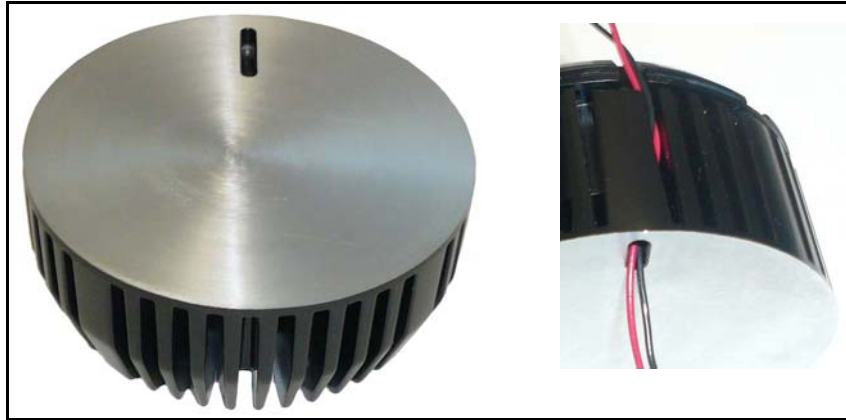

Figure 6: Heat Sink Face - Center Area for LED Attachment
5. Feed the LED power wires through the hole in the heat sink face and through the passage to the exit notch in the cooler cover. They exit on the opposite side from the SynJet wiring. LED power wire routing is shown in Figure 6 and Figure 7. Item 3 in Figure 4 also shows the wires passing along the inner side of the heat sink fins.
Figure 6 shows the center of the heat sink face used to attach the LED. It also shows the wire routing from the LED through the SynJet PAR30 LED Cooler housing tunnel to the LED driver card.